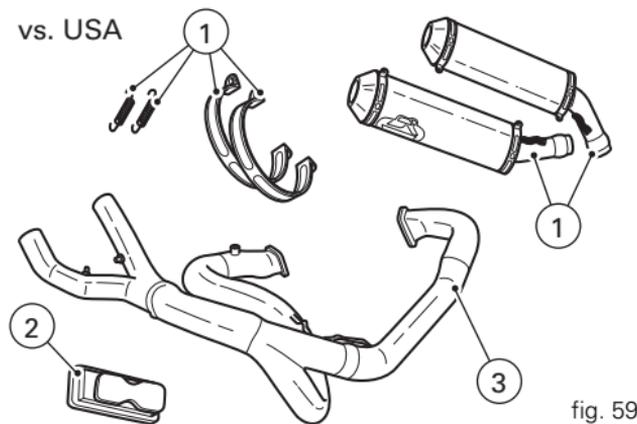

fig. 59
- Set of carbon silencers (1, fig. 59);
- ECU for open pipes (2, fig. 59).
- ECU for open pipes (2, fig. 59);
- Central exhaust pipe (3, fig. 59).